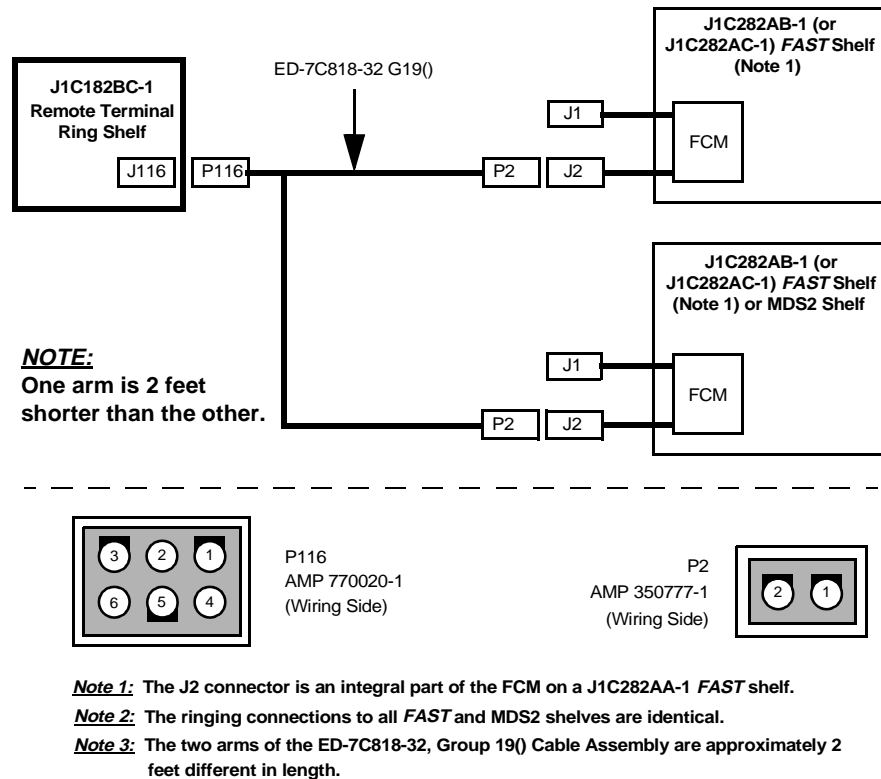

Figure 3-7. ED-7C818-32 G19 Ringing Supply Shelf Cables
5. Connect one P2 connector at the other end of the ED-7C818-32, Group 19() cable assembly to the J2 connector located on top left side of the *AnyMedia FAST* shelf (J1C282AA-1) specified in the Work Order. See Note and Figure 3-7.
6. Connect the other P2 connector to either the J2 connector on another *AnyMedia FAST* shelf or to the J2 connector on an MDS2 shelf. Refer to the Work Order and Figure 3-7.